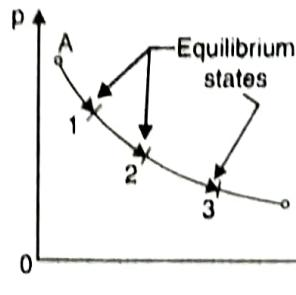

Fig. 1.12 A quasi-static process.
2. Quasi-static Process: A quasi-static process is one in which the system deviates from one equilibrium state by only infinitesimal amounts throughout the entire process. In other words, a process closely approximating to a succession of equilibrium states is called quasi-static process, as shown in Fig. 1.12. It is a nearly reversible process.